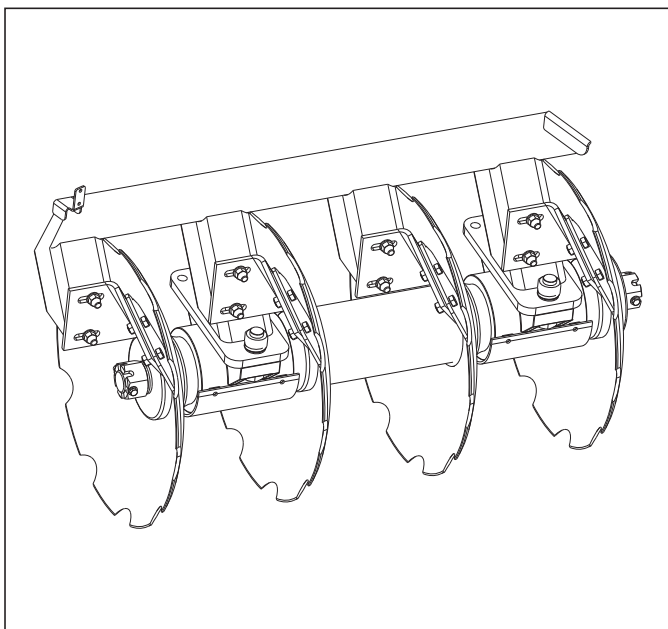

Figure 4-1: Disc Scraper to Disc Blade
5. Check disc scrapers for proper adjustment to the disc blade *See Figure 4-1*